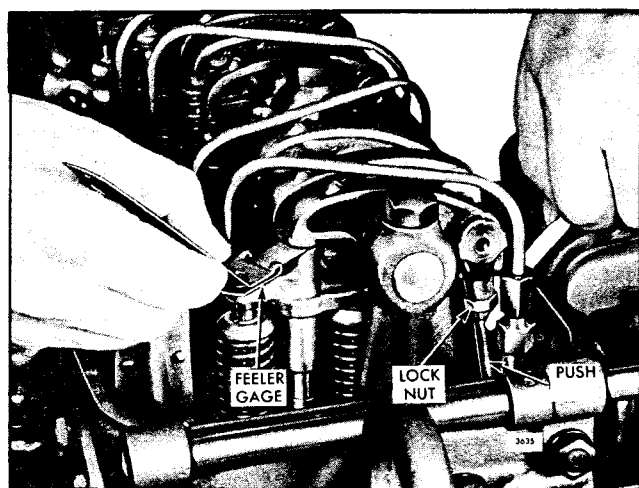

Fig. 3 - Adjusting Valve Clearance
5. Place a .017 " feeler gage, J 9708, between the valve bridge and the valve rocker arm pallet (Fig. 3). Adjust